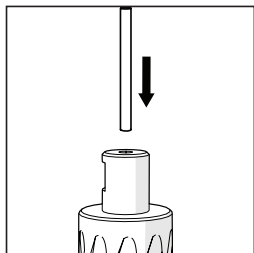

FIG. 5
- Insert the pilot pin into the cutter ensuring that it slides smoothly. **(Fig.5)**